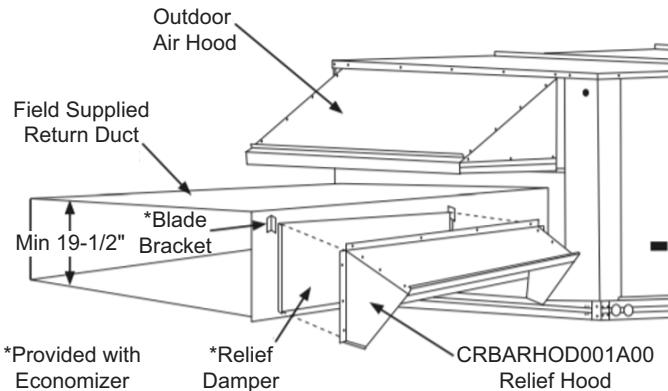

Fig. 29 — Installing CRBARDH001A00 Over Relief Damper
4. Using the blade brackets, install the relief damper onto the side of the return duct (see Fig. 29). The two brackets and relief damper are provided with the economizer.
Caulk the backside of the mating flanges to ensure a watertight seal. Install the CRBARDH001A00 over the relief damper and screw to the return duct, as illustrated in Fig. 29.